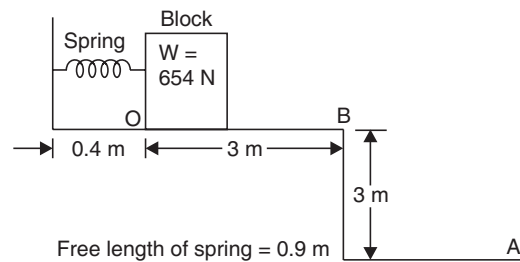

Fig. 9.12
**Example 9.18.** A block of weight 654 N is compressed against a spring as shown in Fig. 9.12. How far from 'B' will it strike on place at A ? Take  $k = 4000 \text{ N/m}$  and  $\mu = 0.2$ .